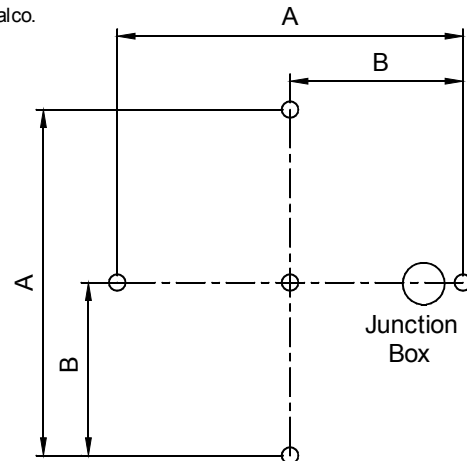

Fig. 1
1. Mount the couplers to the ceiling using appropriate fasteners (not included) according to the structure of the ceiling (Fig. 1 and Table 1).